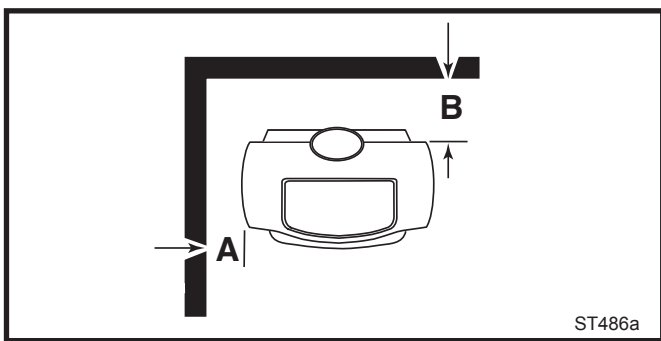

Fig. 10 Minimum clearances.
**Minimum rear clearance from combustible walls (e.g. timber framed or studded walls) 760 mm (30") measured from the rear edge of the stove top. (Fig. 10, B)**
**Minimum side clearance from combustible walls 610 mm (24") measured from the side edge of the stove top. (Fig. 10, A)**